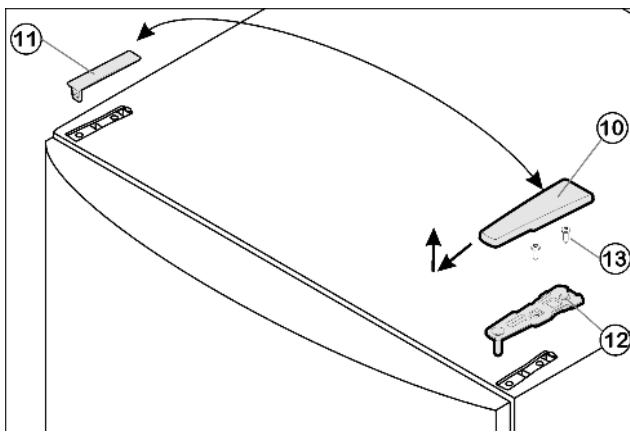

Fig. 4
- ▶ Pull off the cover Fig. 4 (10) forwards and upwards.
- ▶ Lift off the cover Fig. 4 (11).
- ▶ Unscrew the upper turn hinge Fig. 4 (12) (2x Torx® 25) Fig. 4 (13) and lift it off.
- ▶ Insert the upper turn hinge *Fig. 4 (12)* in the door on the new hinge side.
- ▶ Screw the upper turn hinge *Fig. 4 (12)* firmly into place (with 4 Nm)(2x Torx® 25) *Fig. 4 (13)*. Possibly make preliminary holes with a bradawl or use a cordless screwdriver.
- ▶ Snap the cover *Fig. 4 (10)* and cover *Fig. 4 (11)* into place at the opposite side.